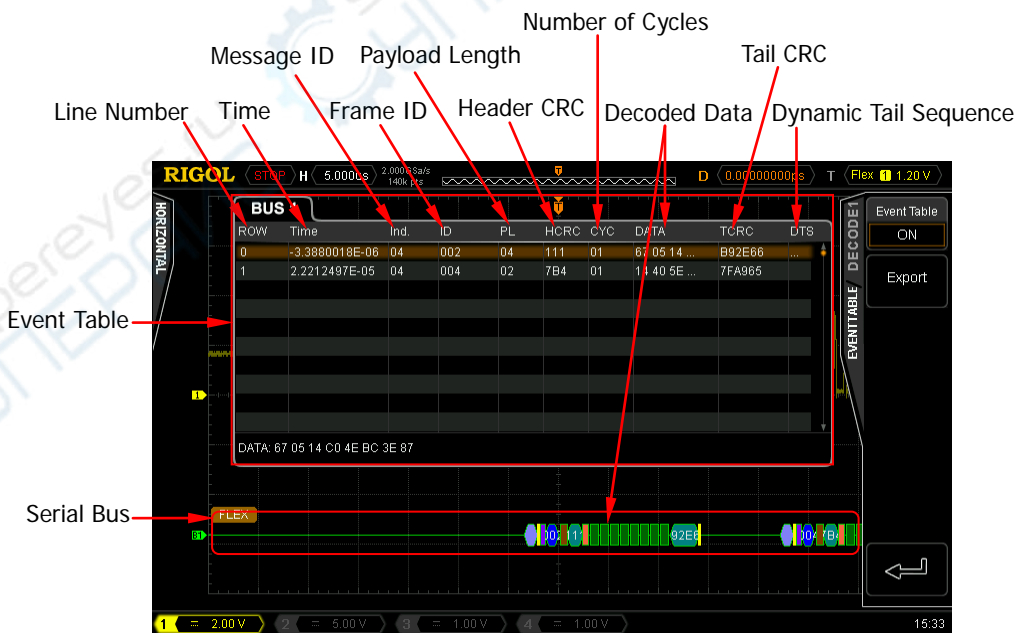

Figure 7-7 FlexRay Decoding
Press **BusStatus** to turn the Decode1 bus display on or off. You can also press **Decode1** to switch the current on/off status of the Decode1 display. When the bus display is turned on, the interface is as shown in Figure 7-7.
- 1) Press **Event Table** to turn on or off the event table. When the event table is turned on, the interface is as shown in Figure 7-7.